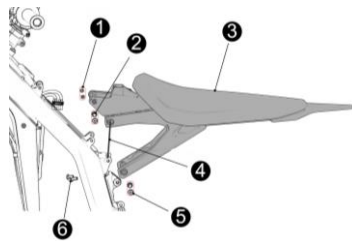

Fig 45
11.16 Dismount tailstock assembly (see Fig 45)